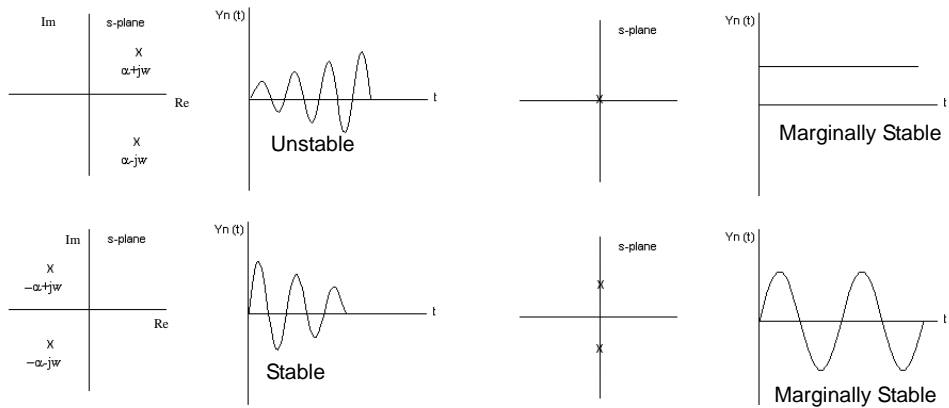
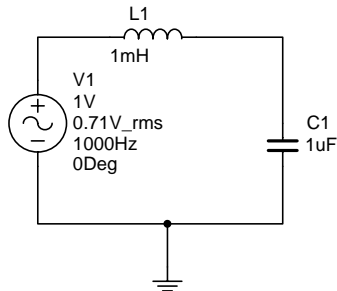

Figure P3
Figure P4
Referring back to figure P3, it is clear that this circuit is not unstable since the only pole in the above transfer function exists in the negative region of the s-plane.
- To setup and run pole zero analysis using the circuit shown in Figure P4, we will follow the steps listed below.
This graph indicates that two poles exist. One of the poles appears in the negative region and one in the positive region of the s-plane. Because one of the poles exists on the positive region of the s-plane, the stability of this circuit (figure P4) is poor according to figure P3.